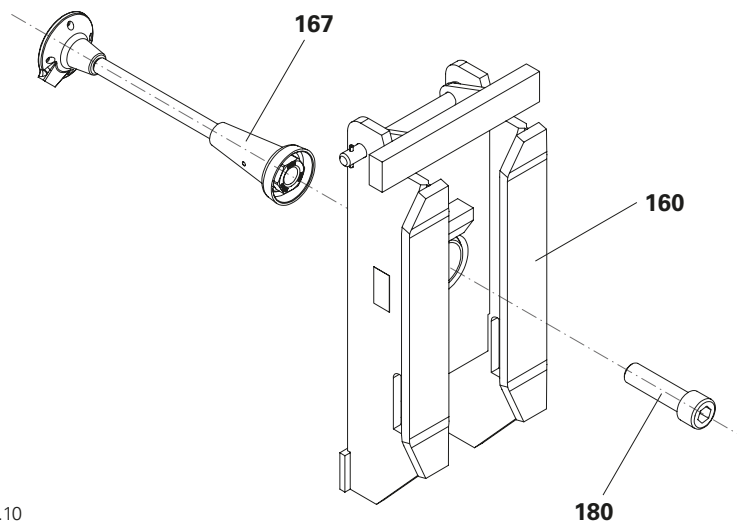

Fig. A3.10
1. Screw Climbing Shoe-2 I ACS (**160**) onto the climbing tie (**167**) using cyl. bolt ISO 4762 M30 x 110-10.9 (**180**). (Fig. A3.10)